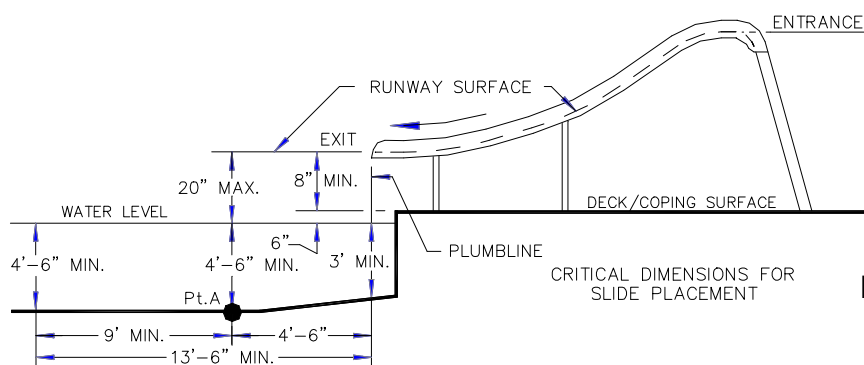

Figure 26
1) The critical dimensions for placement of the slide are as shown in Figures 26 and 27.
- A. The slide exit runway surface shall not exceed twenty inches (20") above the water surface and not less than eight inches (8") above the deck/coping surface (see Figure 26).
- C. The minimum depth of water below the exit lip of the slide shall be three feet (3') and increases to four feet six inches (4'-6") at Pt. A which is a distance of four feet six inches (4'-6") from the exit lip of the slide. (See Figure 26).
- D. A minimum depth of four feet six inches (4'-6") shall be maintained at a distance of nine feet (9') along the extended centerline of the slide from Pt.A. (See Figure 26).
- 7) Observe the position of the exit of the slide as shown in Figures 26, 27 and 28 on pages 18 and 19.